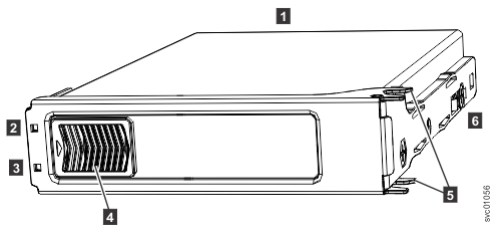

Figure 144. LEDs on a drive assembly
Figure 144 on page 123 shows the components of a drive assembly. Each drive has an online indicator (2) and fault indicator (3).